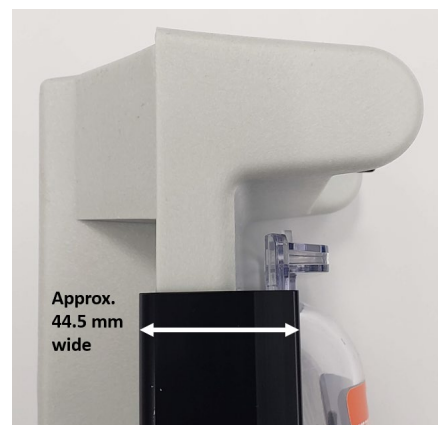

Figure 3: Narrow Hinge Width 44.5mm (Non-Affected Chambers)
2. If the device has the narrower hinge assembly as in Figure 3, then it is not affected, and you can continue to use the device per the instructions in 3b and 3c below.